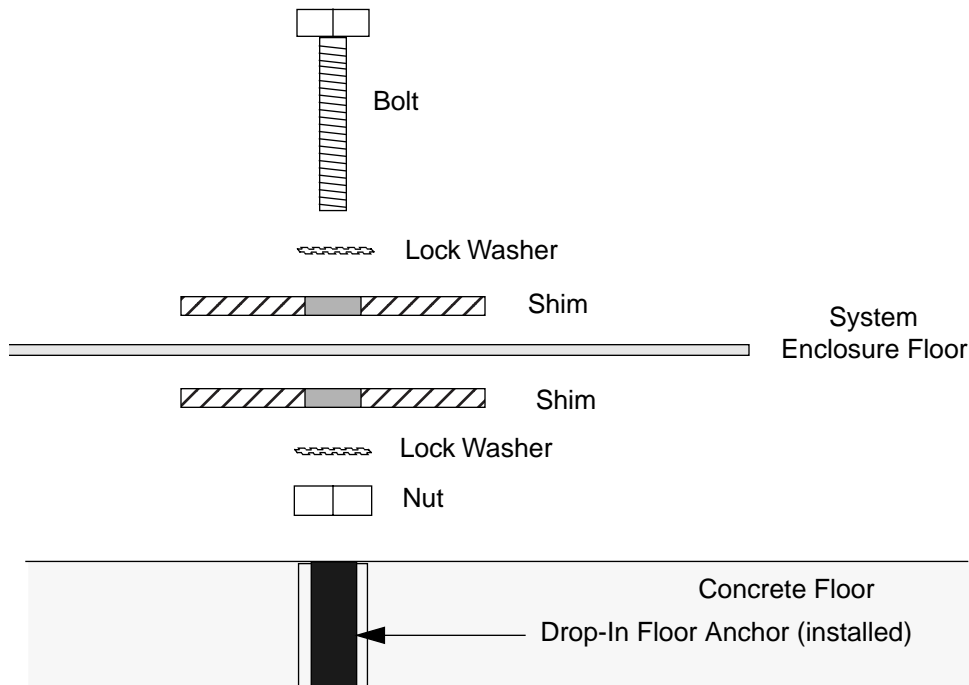

Figure 12: Installing The Earthquake Zone 2 Hardware
1. Loosely install the bolt, lock washers, shims, and nut in the rear mounting hole as shown in Figure 12.
2. Install the bolt and lock washer as shown in Figure 12.